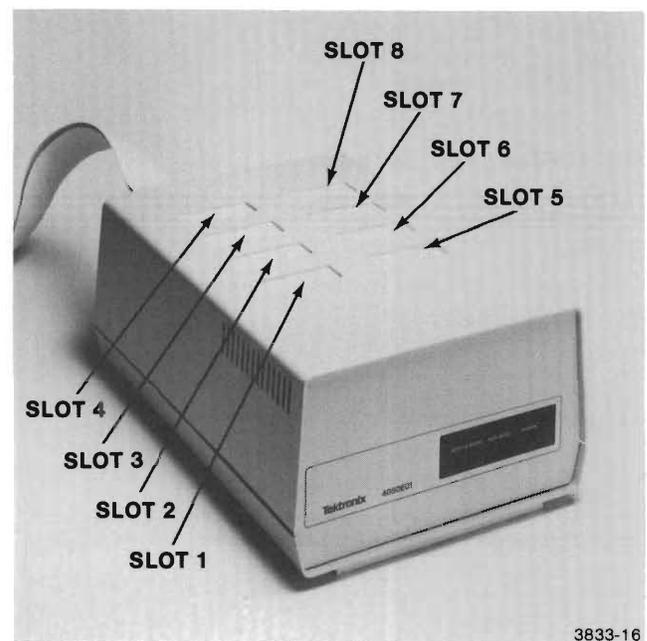

Figure 4-2. Slot Numbers.
6. With the Graphic System turned off, place the Option 10 Printer Interface in Slot 1 of the ROM Expander (Figure 4-2). ROM Packs may be used if a Printer Interface is not available, but do not use more than one ROM Pack of the same type.